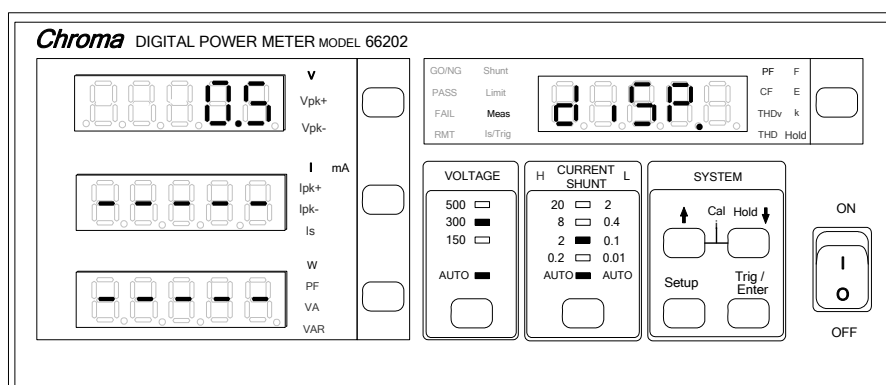

Figure 4-30 Setting DISP Option and Window Time
1. Press **Setup** to select Meas and the indicator of Meas is on. Figure 4-30 shows the initial setting screen.